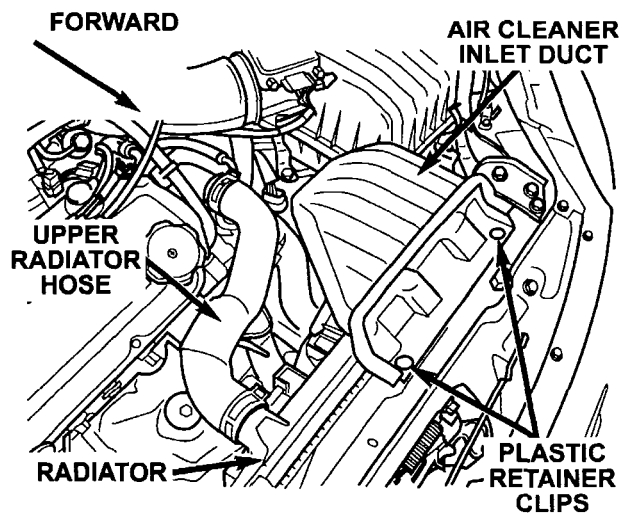

Figure 1
1. On vehicles equipped with a V-6 engine, remove the two plastic retainer clips on the air cleaner inlet duct (Figure 1).